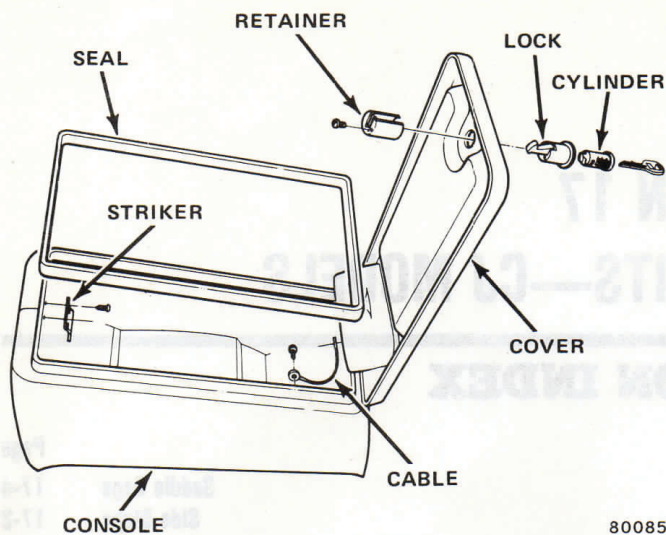

Fig. 17-2 Floor Console Components
- (2) Using console as a template, centerpunch and drill four 0.194 (No. 10 drill bit) holes for mounting.
- (3) Attach console to floor with 1/4-inch self-tapping screws (fig. 17-2).
- (4) Drill through drain hole and floorpan with 1/4-inch drill if drain is required.